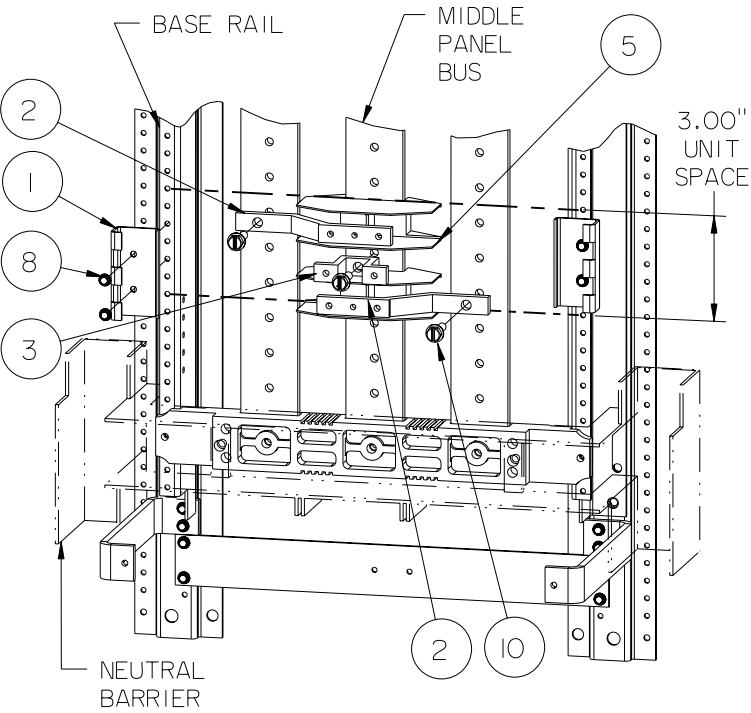

Figure 5
6. Refer to fig. 5. - Position the two breaker supports (item 1) on the base rails in the center of the 3" kit unit space as shown. Fasten them to the base rails using four 8-32 screws (item 8). Install the two ED branch 3 ϕ system barriers (item 5) at the upper and lower edges of the 3" kit unit space by inserting their pins completely into the corresponding holes in the middle panel bus. Position the two outer connectors (item 2) within the barriers, and the center connector (item 3) between the barriers. Fasten the connectors to the panel bus with three 1/4-20 X 1" screws (item 10).